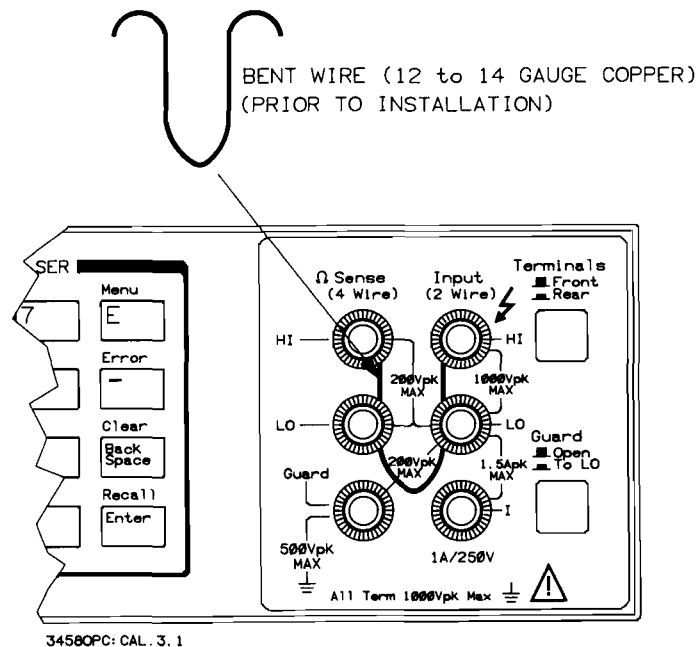

Figure 3-1. 4-Terminal Short.
1. Connect a low thermal short across the front panel **HI** and **LO** input terminals of the DMM under test (see Figure 3-1).
- A low-thermal 4-terminal short for the offset adjustments (this is typically a bent piece of copper wire as shown in Figure 3-1).
6. Allow the multimeter to warm up for 4 hours from the time power was applied. (At this point, you can connect the 4-terminal short to the front terminals as shown in Figure 3-1 to prepare for the Front Terminal Offset Adjustment.)
Equipment required: A low-thermal short made of 12 or 14 gauge solid copper wire as shown in Figure 3-1.
2. Connect a 4-terminal short across the front panel **HI** and **LO Input** terminals and the **HI** and **LO Ω Sense** terminals as shown in Figure 3-1.